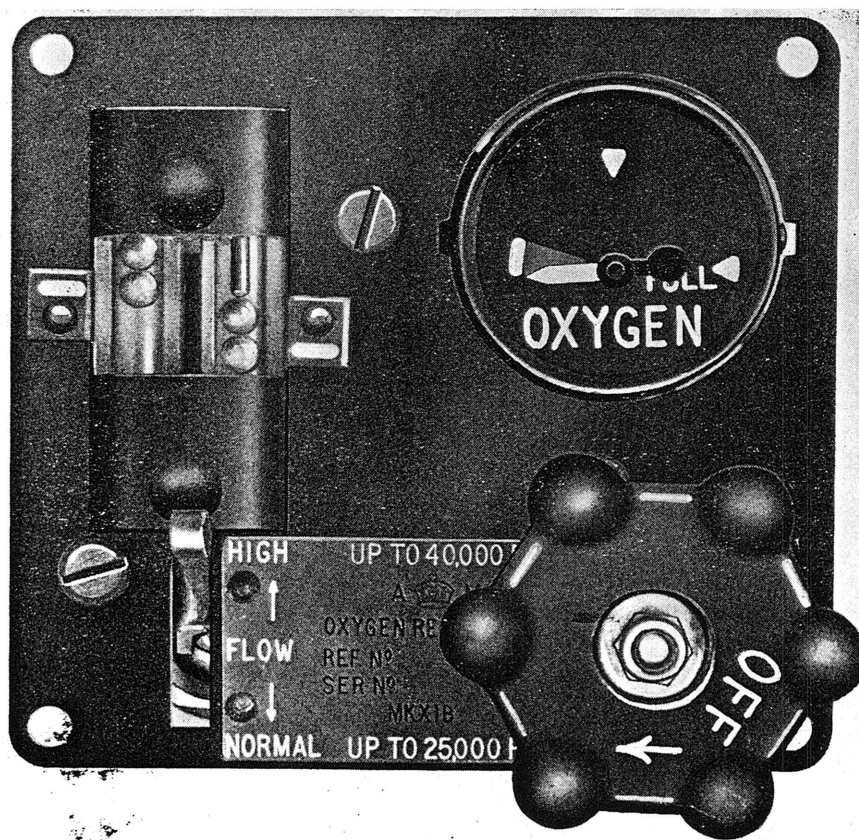

Fig. 1. Mk. 11B regulator
1. This regulator (fig. 1 and 2) is similar to that described in Chapter 2 except for the following differences :—